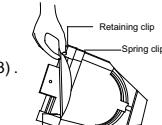

Figure 3
- 3.Hold the lens by the edge, and position it so the convex side faces the back of the fixture(**Figure 3**). Note: Installing the lens with the convex side out will not impair the optics,but it will make removing the lens difficult.